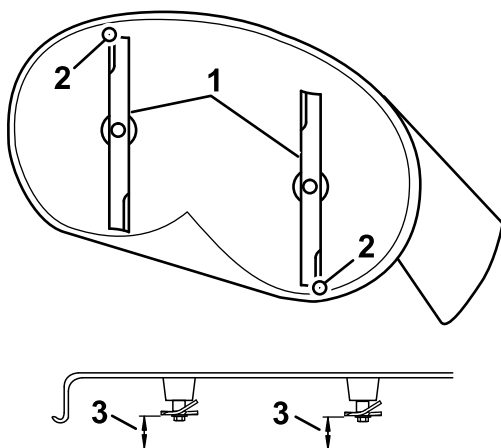

Figure 68
4. Carefully rotate the blades so they are facing front to rear (Figure 68).
5. Measure from the tip of the front blade to the flat surface and the tip of the rear blade to the flat surface (Figure 68).